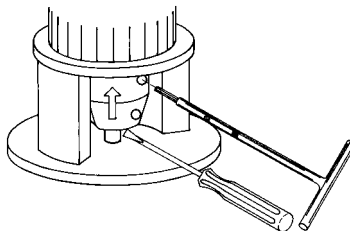

Fig. 15 Tightening the screws
6. Tighten the screws two and two (one side at a time) to the torque stated below. See fig. 15.